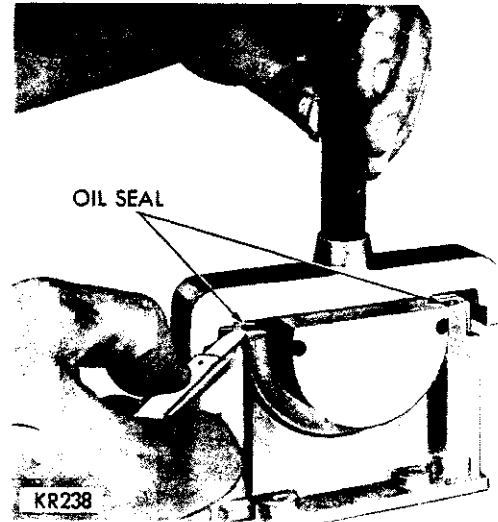

Fig. 35—Trimming Rear Main Bearing Lower Oil Seal
(3) Trim off that portion of the seal that protrudes above the cap (Fig. 35).